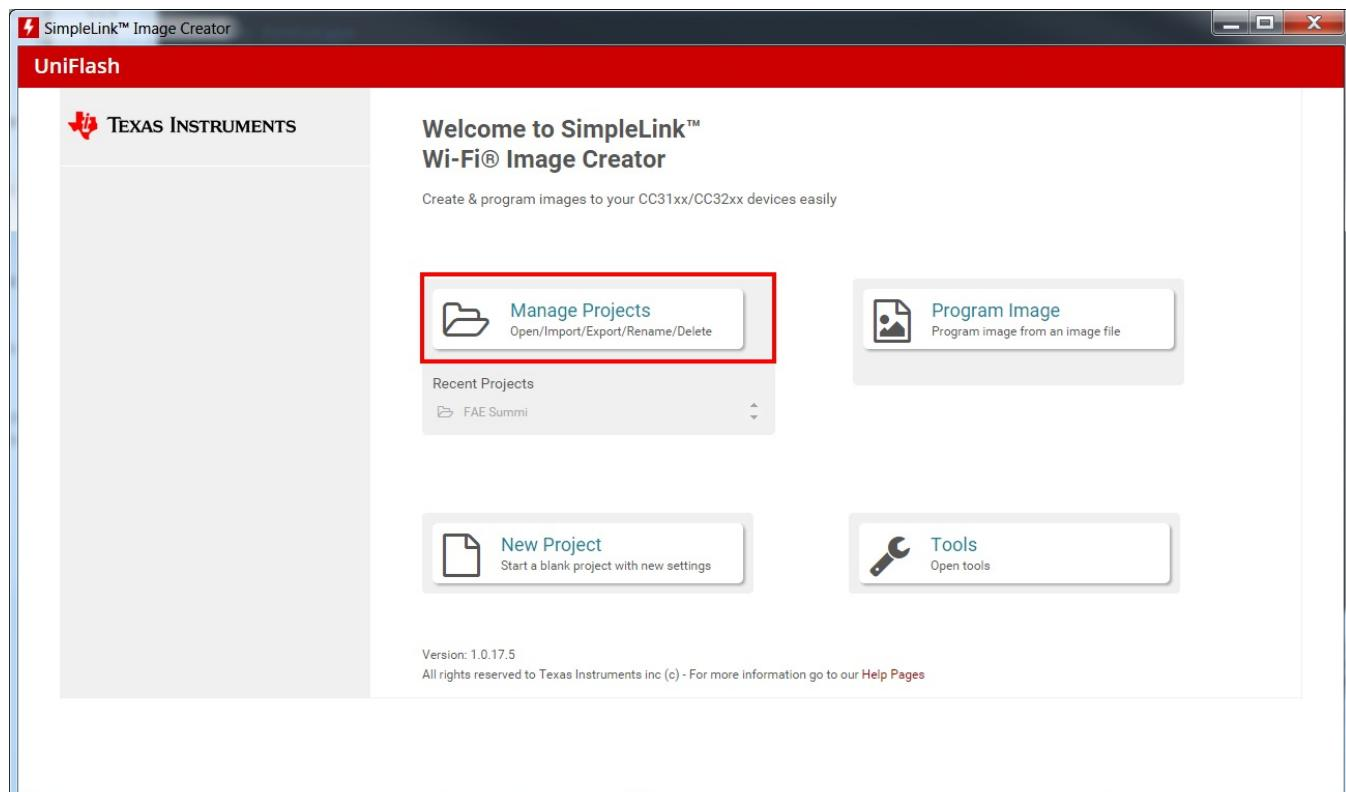

図 9. Manage Project
3. After starting Image Creator, click on the *Manage Projects* button as shown in 図 9.